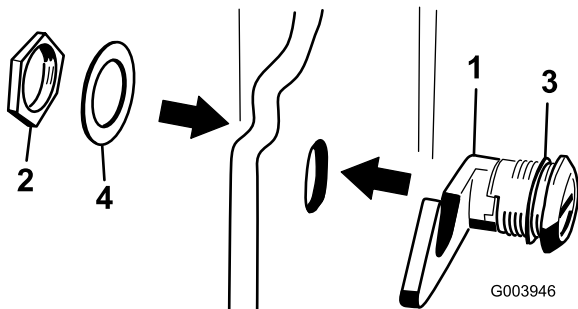

Figure 17
3. Remove the nut from the hood latch assembly (Figure 17).